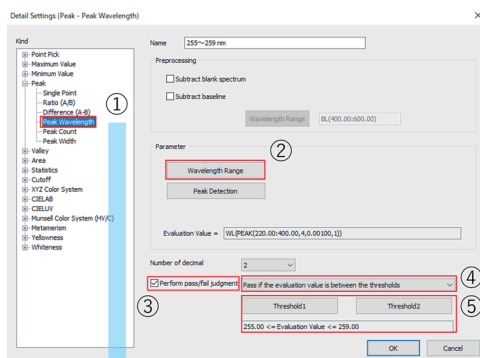
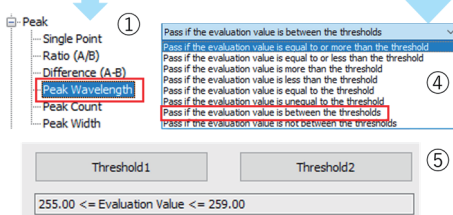

Fig. 4 Setting the Pass/Fail Judgment Criteria
Fig. 5 Enlarged View of Evaluation Settings Window
First, the spectral evaluation items need to be set. This function allows setting of multiple items that can be evaluated at the same time. Fig. 4 shows the detailed settings window of the spectral evaluation function and Fig. 5 shows an enlarged view. In the identification test of "rutin, for thin-layer chromatography", a pass judgment is obtained when maxima between 255 nm and 259 nm and between 356 nm and 360 nm are exhibited. First, select [Peak] - [Peak Wavelength] ① under [Kind]. Next, set [Wavelength Range] ② under [Parameter] for the peak to be detected. In this example, the range was 220 to 400 nm. Select the [Perform pass/fail judgment] check box ③, set the judgment criteria, and select [Pass if the evaluation value is between the thresholds] ④ from the drop-down list. Lastly, set the [Threshold 1] and [Threshold 2] values ⑤, which define the acceptance range, as 255 nm and 259 nm respectively. Add an item for 356 nm to 360 nm using the same method.